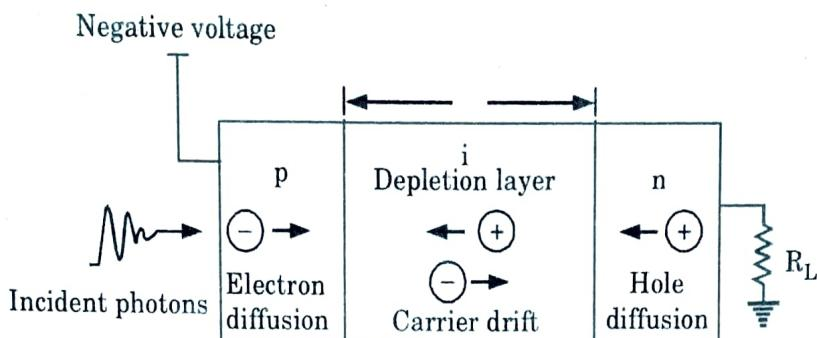

Fig. 4.15.1. Reverse biased PIN diode.
2. After observing Fig. 4.15.1 the total current density through depletion layer is $J_{tot} = J_{dr} + J_{diff}$... (4.15.1)